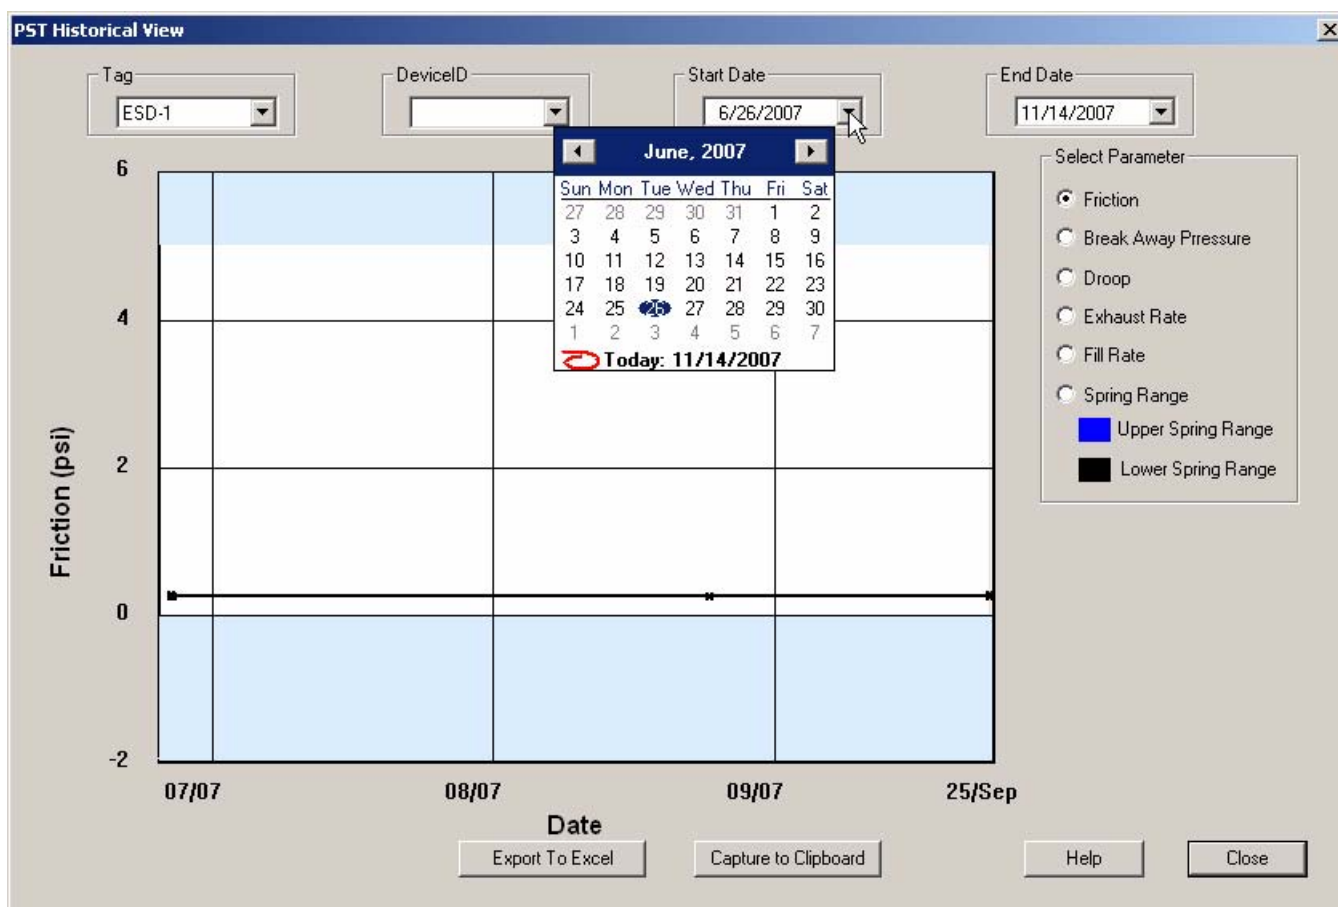

Figure 270 Selecting Start Date for Historical View
2. ESDVue will launch the PST Historical View window shown in Figure 270 on page 245.